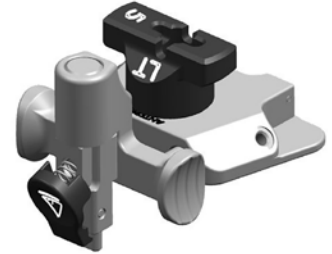

Figure 1
2. Attach the desired Valgus Bridge to the Valgus Guide Base (Figure 1).